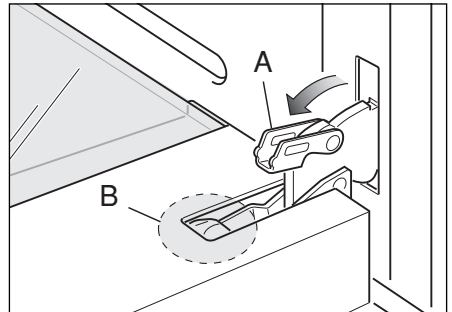
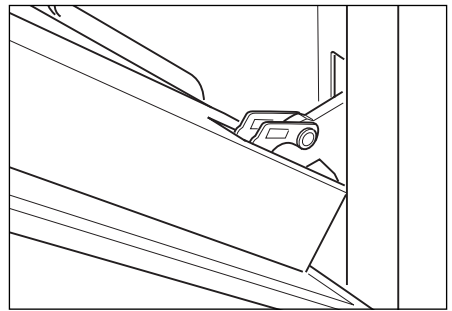

Fig.47b
Fig.47c
- Fully open the lever "A" on the left and right hinges (Fig. 47b).
- Gently close the door (Fig. 47c) until the left and right hinges are hooked to part "B" of the door (Fig. 47b).